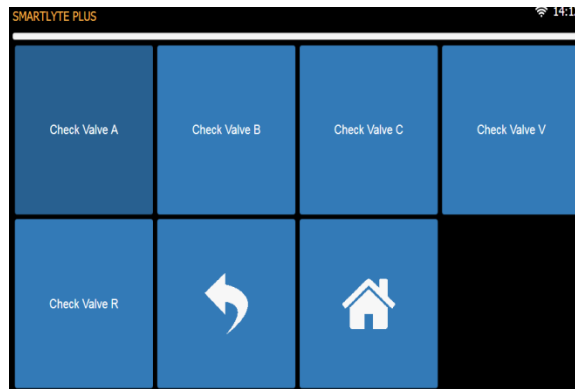

Figure 6-9 Check Valves Menu
- On Diagnostic Menu, press **[CHECK VALVES]** to obtain access to the different valves (Figure 6-9).
- Press the button for the valve to be tested. (Figure 6-9)